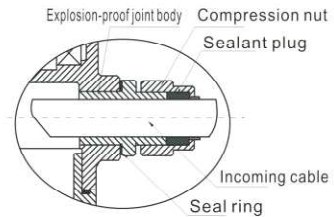

figure 2
4. As shown in Figure 2, unscrew the compression nut of the explosion-proof joint and thread the incoming cable from the sealant plug, compression nut and explosion-proof joint into the electric actuator.